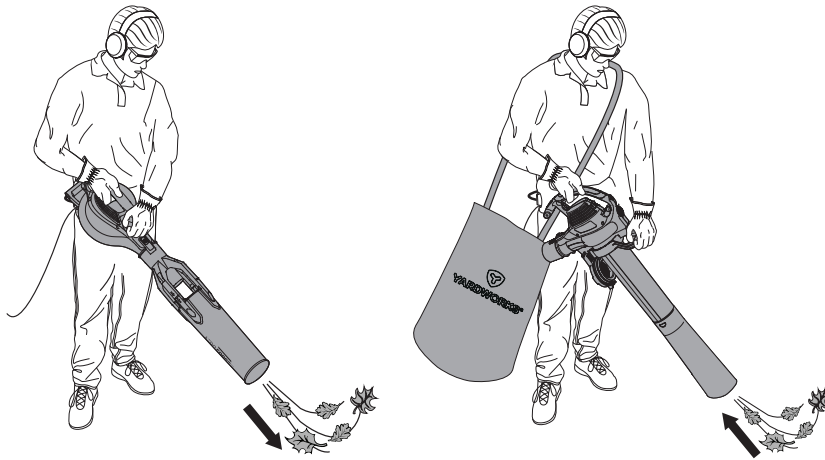

Fig. 9
- During operation, hold the device with one hand on the casing grip and the other on the additional grip. (Fig. 9)